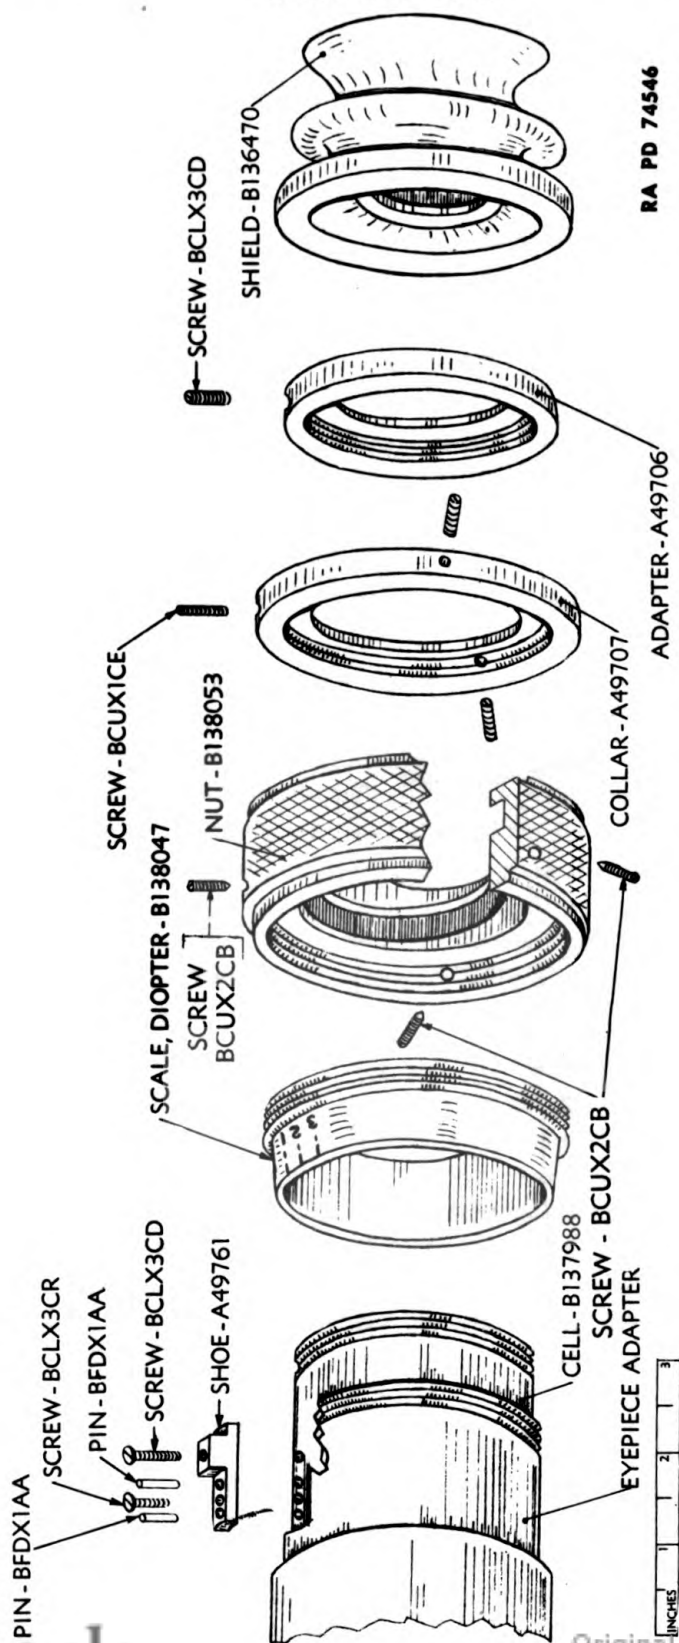

Figure 36—Focusing Nut and Eyepiece Cell Assembly—Exploded View
(2) Remove the headless screw BCLX3CD from the eyeshield adapter and unscrew the eyeshield adapter from the eyepiece lens cell.
(3) Remove the three headless screws BCUX1CE from the focusing nut retaining collar A49707 and unscrew the collar from the eyepiece adapter C69961.
(4) Now turn the focusing nut backward off the shoe A49761 and remove it from the eyepiece adapter (fig. 36).
(5) To remove the shoe from the eyepiece lens cell, remove the two screws BCLX3CR and BCLX3CD from the top of the shoe. The two straight pins BFDX1AA remaining in the shoe have a drive fit and care should be used in removing them. If the shoe is gently pried upwards a little at a time at both ends, the shoe can gradually be released. When the shoe is removed draw the eyepiece assembly C69964 out through the end of the eyepiece adapter.